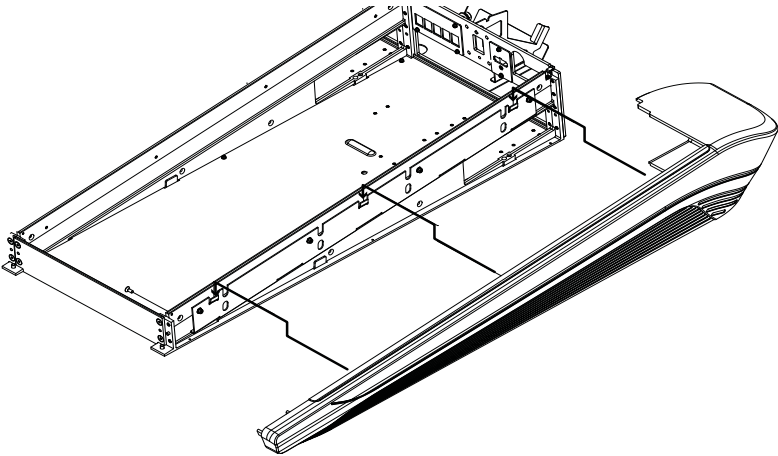

Figure 30. Attaching the right Side Cover (Bolster not shown)
4 Make sure power and Ethernet cables are not in the way, then take the right Side Cover and attach it to the right mounting plate as shown in Figure 30.
- 5 From the inside of the chassis, use four more flathead Phillips screws to secure the right Side Cover to the frame as shown in Figure 30.